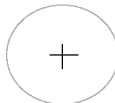

Fig. 62 - Service Label Information
6. Verify that the Status LED glows. If not, check that the power supply is energized and that the blower door is secure. See Fig. 62 to interpret diagnostic codes.
Refer to the service label. See Fig. 62.
For an explanation of status codes, refer to service label located on control door or Fig. 62, and the troubleshooting guide which can be obtained from your distributor.
The stored status codes will NOT be erased from the control memory when 115- or 24-v power is interrupted. See the Service Label (Fig. 62) for more information. The most recent fault code may be retrieved as follows:
2. Observe the status LED through the blower door (the lower door on upflow applications) indicator. Refer to the Service Label (Fig. 62) to interpret the LED.
5. The LED will flash the last stored fault code. Refer to the Service Label (Fig. 62) to interpret the LED.